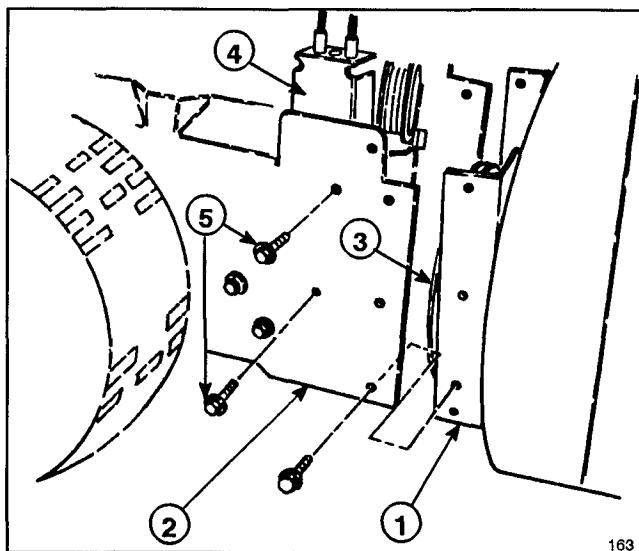

Figure 1
MOUNT AUGER HOUSING (Fig. 1–3)
1. Remove (2) flange head capscrews securing idler pulley assembly to engine frame. Remove idler pulley assembly.
2. Align auger housing and engine frame mounting holes (Fig. 1).